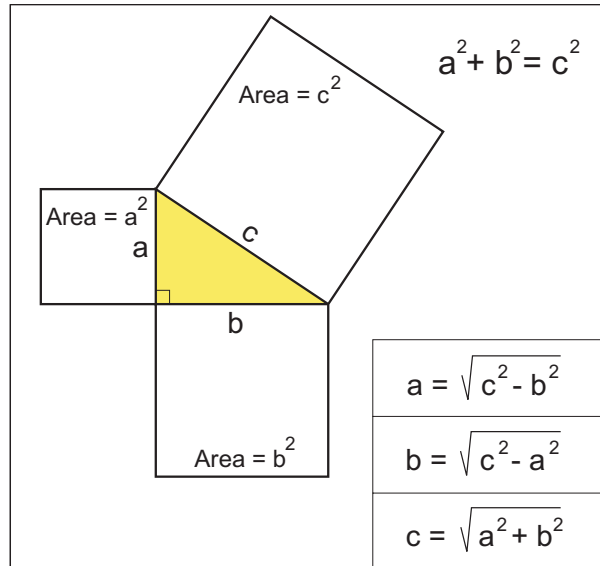

Figure 53-21
*Pythagorean Theorem* is used in CNC programming to find the length of *any* side in a right triangle, providing the *two other sides are known*. Figure 53-21 shows calculation of each side of a right triangle, based on two known sides: